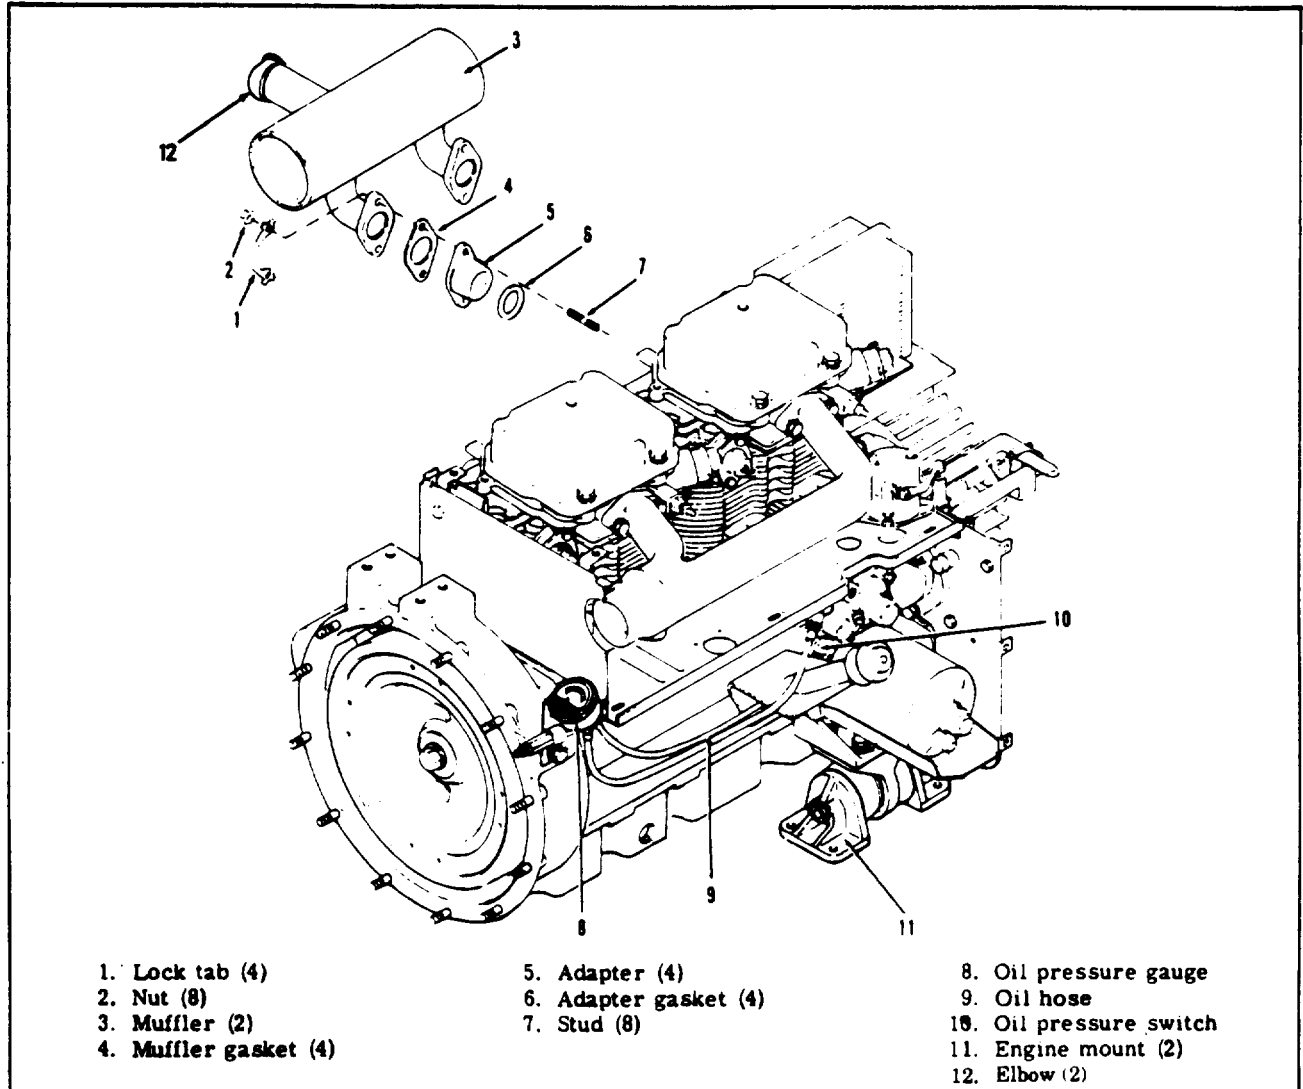

Figure 3-6. Exhaust Muffler Assembly
a. Inspect (see figure 3-6). Manually open shutter assembly and check that muffler assembly (3) is securely fastened to unit. Check that nuts (2) and lock tabs (1) attaching muffler to unit are in place.